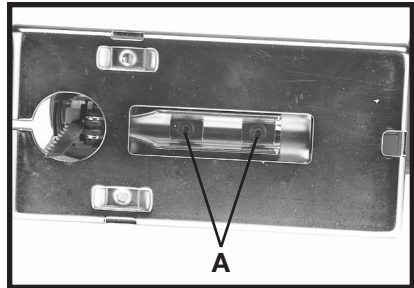

Fig. 10
The base is set at its forward most position at the factory. The base can be adjusted to the rear for making flush cuts around walls and other similar areas. To move the base forward or backward, turn the saw on its side, loosen screws (A), Fig. 10, move